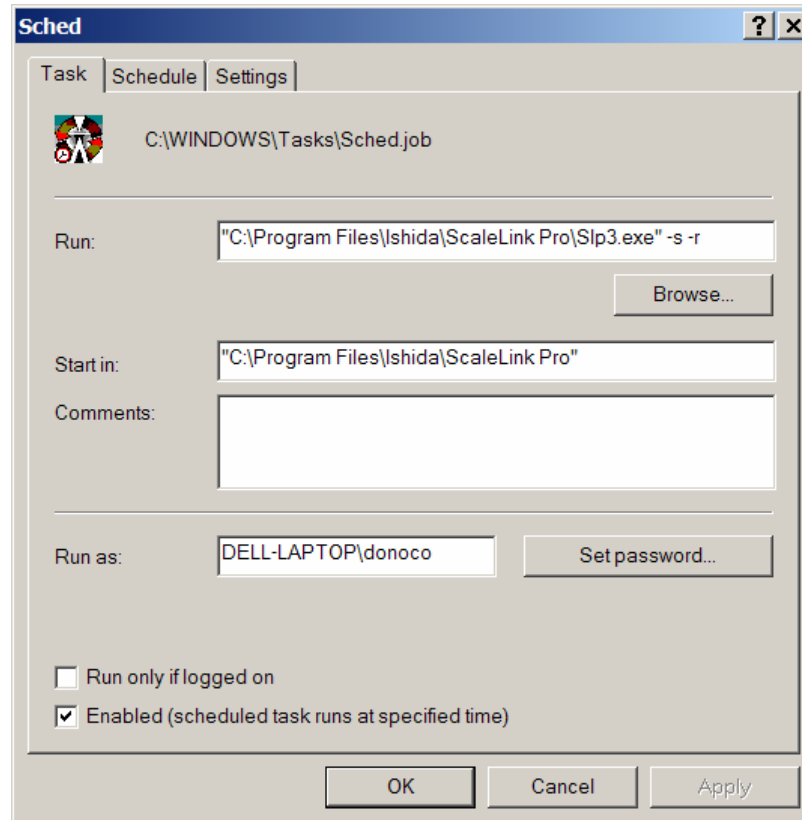

Figure 3. Creating a task to launch the ScaleLink Pro Scheduler.
8. Add the switches as listed in section **ScaleLink Pro Scheduler, Command Line** above. See figure 3 below.
9. Enter the location of ScaleLink Pro in the **Start** field. See figure 3 below.
If the Microsoft® Windows Scheduler does not launch the ScaleLink Pro Scheduler use the following method to isolate the problem. Referring to figure 3 above, copy the complete Run line data as entered in the task to launch the ScaleLink Pro Scheduler (the path, etc. may differ on some computers).